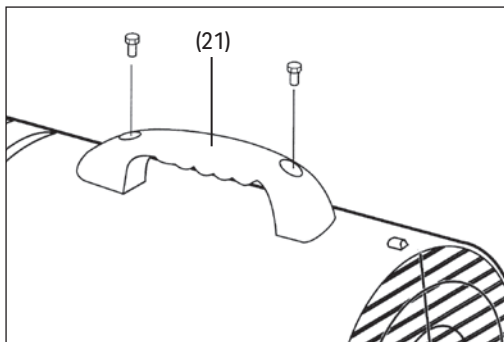

Fig.1
6.1 Handle Fitment (32286, 32287 & 53926) – Fig. 1